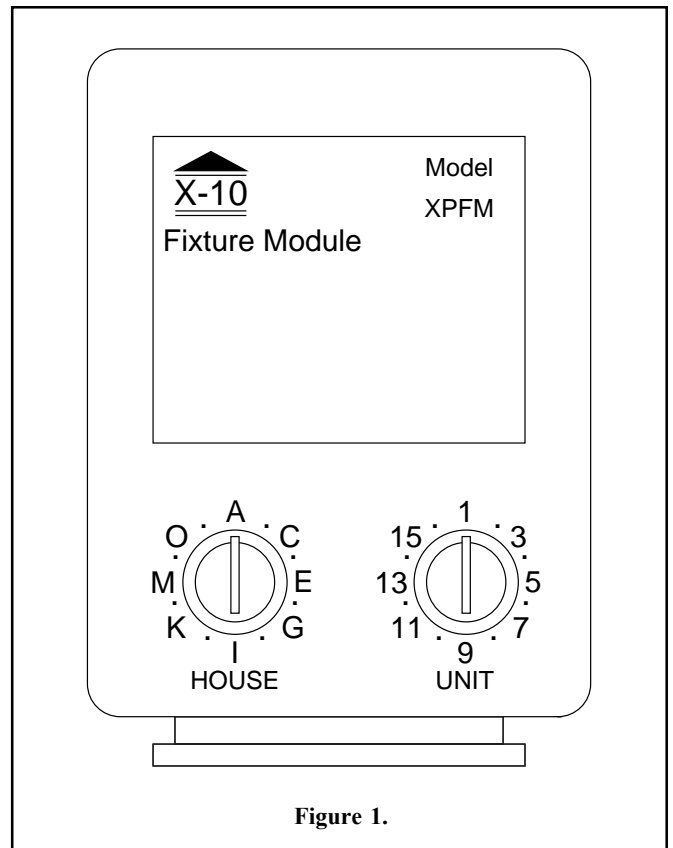

Figure 1.
4. Take one of the XPFM modules (see Figure 1), set the UNIT dial to channel 2 and the HOUSE dial to the appropriate code (A is usually chosen for first time X-10 use). Place this module on the LEFT side of the PG2000 as seen in Figure 4. First clean the mounting surface, then attach module with the double stick tape provided. Using the wire nuts provided, connect the BLUE wire and the YELLOW wire (from the colorwheel fuse). The BLACK (120VAC, line) wire will be connected in the next instruction.